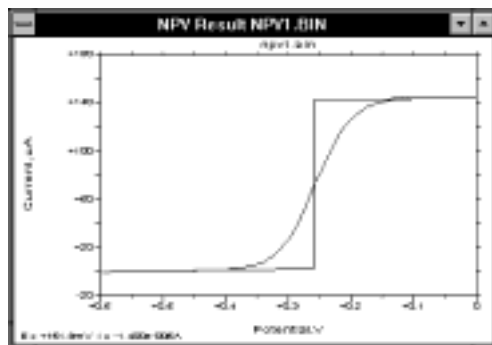

Figure 7-5. Sigmoidal current response.
- c) **Sigmoidal** curves - Two baselines are required to measure the limiting current. These are defined by two points on the I vs. E curve 50 mV apart in a range of 250 mV either side of $E_{1/2}$ (the half-wave potential) (Figure 7-5). Different values are chosen to find the lines of absolute minimum slope.